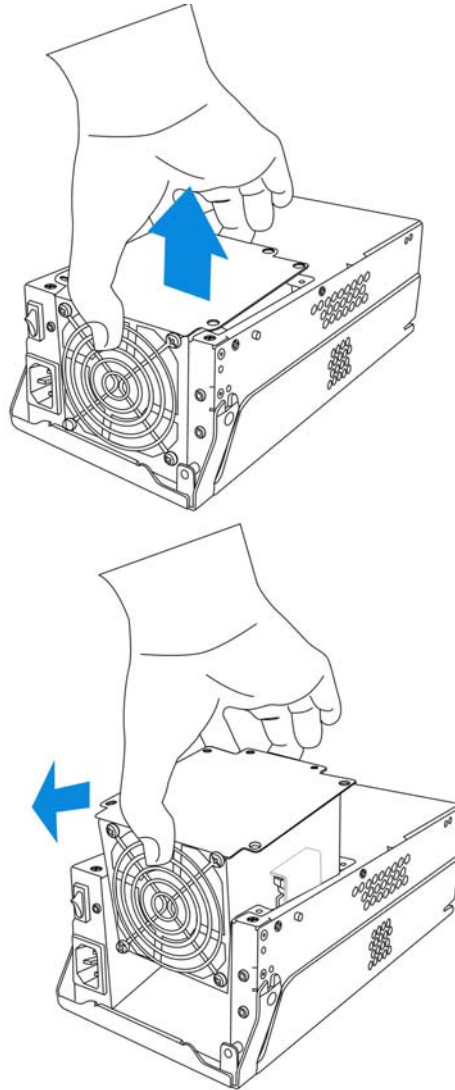

**Figure 5-16: Removing the Cooling Module**
- *The fan replacement process should be completed within five (5) minutes. If the process takes too long, the accumulated heat can damage the subsystem.*
**Step 2.** Use a medium-size Phillips screwdriver to remove the six screws from the top of the PSU module. (See *Figure 5-16*)